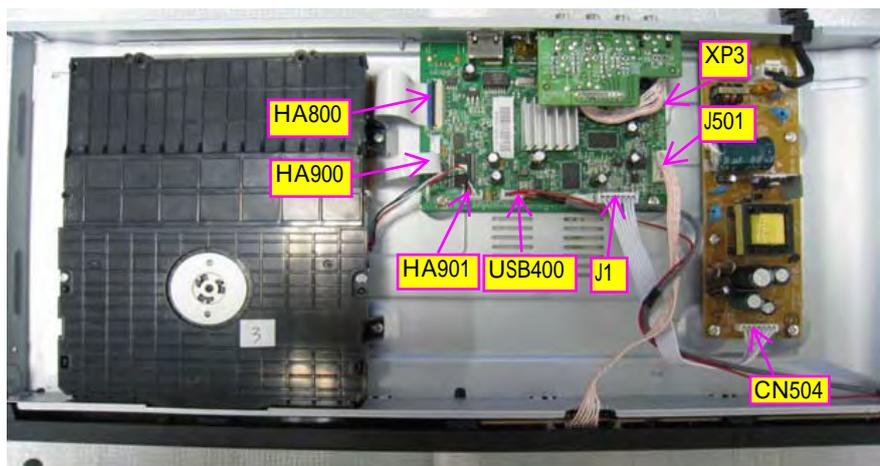

Figure 4
Step4: Dismantling Front Panel, disconnect the connectors (J501, USB400), need release 2 snaps of Front Panel and 2 snaps of bottom cabinet , then gently pull the Panel out from the set. (Figure 4 - Figure 5)